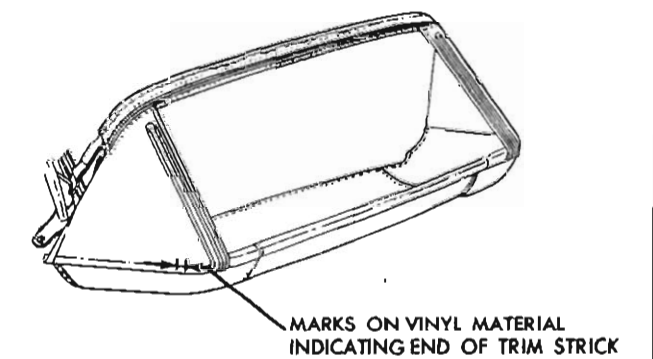

Fig. 35—Removing Folding Top Trim for Replacement
7. Detach folding top compartment bag from rear seat back panel, thus exposing rear quarter and rear trim stick attaching bolts. Forward end of top compartment bag may be tied or wired to center roof bow to provide ready access to attaching bolts (fig. 35, A).
8. At each rear quarter area remove attaching bolts securing rear quarter trim stick assembly to rear quarter inner panel (fig. 35, B).
10. To establish relationship of right and left inner vertical edge of old top material to back curtain assembly at rear trim stick location, mark back curtain vinyl at both locations with a grease pencil (fig. 35, C). Reference marks should be transferred to new back curtain when step 8 of installation procedure is performed.
14. Lock top to windshield header. Install radius end of each adjustable spacer stick to fit against center roof bow. Install opposite end of spacer stick so that metal plate fits under rear roof bow (fig. 35, D). Spacer sticks should be installed along inboard edge of side stay pad or approximately 18½" outboard from centerline dimple of rear roof bow. While exerting rearward pressure on rear bow to draw side stay pads taut, extend spaced sticks until they fit snugly between center bow and rear roof bow, then tighten wing nuts.
NOTE: Spacer sticks may be made as shown in Figure 35, E.
15. Temporarily tie or tape rear bow to rear side roof rails (fig. 35, D). Detach side stay pads and back curtain assembly from rear bow.
17. Using chalk, or other suitable material, mark ends of rear and rear quarter trim sticks on vinyl surface of back curtain material (fig. 35, F). Reference marks for trim sticks should be transferred to new back curtain material when step 8 of installation procedure is performed.
1. If a new top is being installed, but it was impossible to perform step 14 of removal procedure, preset spacer sticks to shortest length and install between center and rear roof bow (fig. 35, D). Adjust sticks so that dimension "X" (measured along spacer stick from front upper rolled edge of rear roof bow to center of center bow) is 15" ($\pm 1/4$ "). Tie or tape rear bow to rear side roof rails.